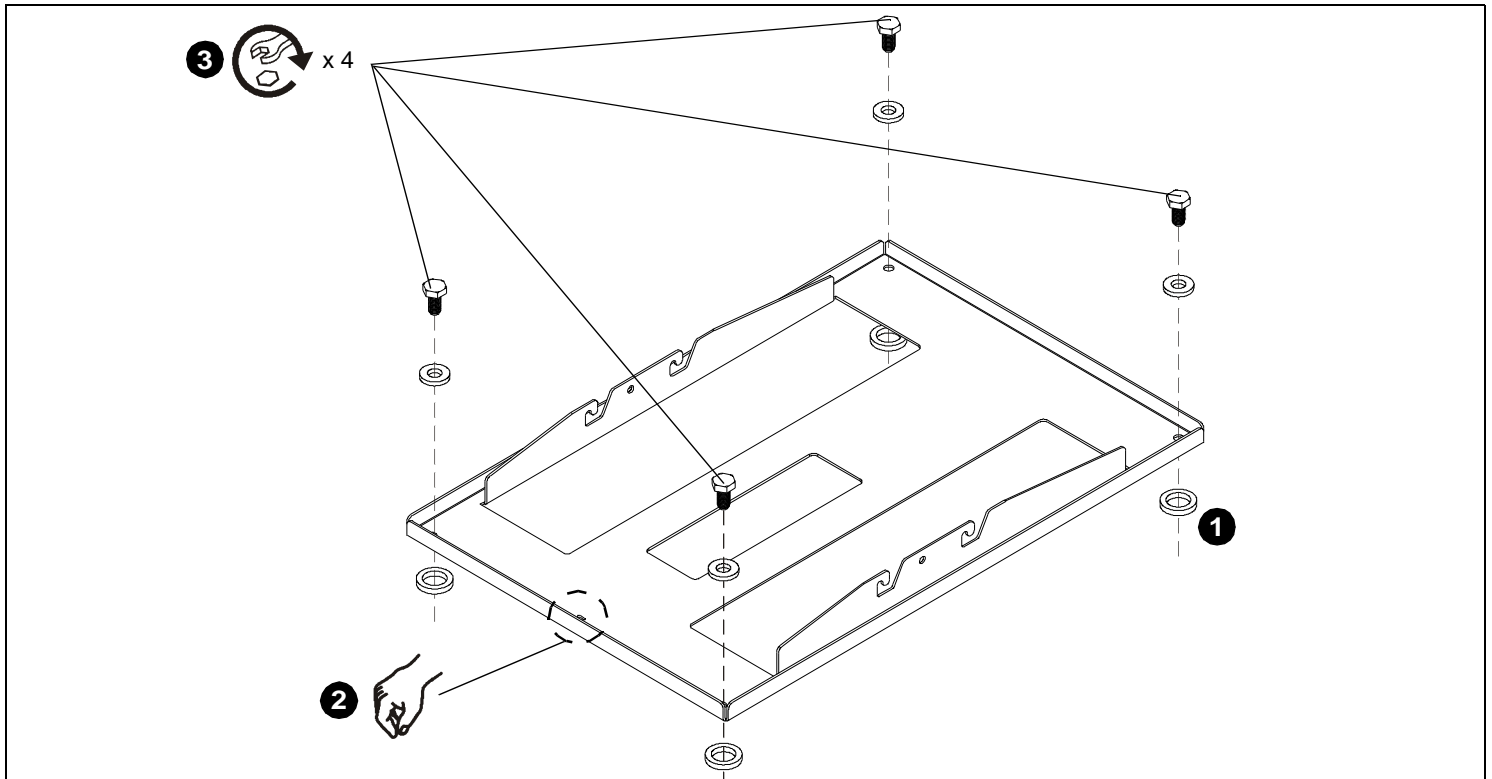

Figure 1
2. Lower custom HB bracket onto top of spacers and projector. Ensure that triangle in bracket points toward front of projector. (See Figure 1)
3. Attach HB bracket to projector using four M10 x 20mm hex head cap screws and four M10 washers through four holes in the HB bracket. (See Figure 1)